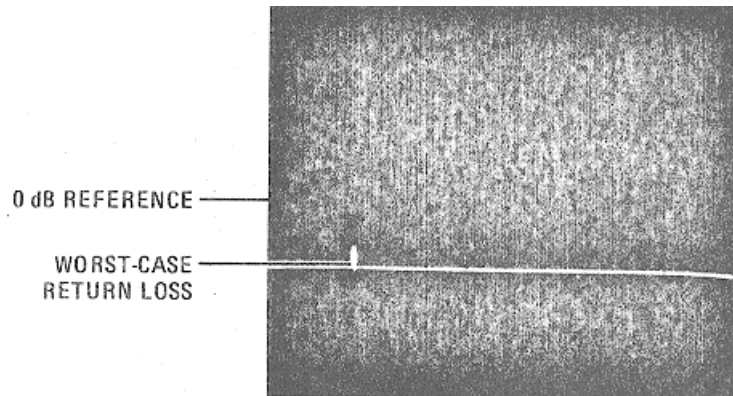

Figure 19. INCIDENT Port Return Loss (2 to 100MHz)
- (1) Connect 8502A INCIDENT port directly to Directional Bridge LOAD Port with TEST, RF INPUT, and REFLECTED ports terminated.
- (2) Move 8505A Frequency Control MARKER 1 control to worst-case Return Loss between 2 and 100 MHz as indicated on CRT. (This is the point closest to calibration line as shown in Figure 19.)